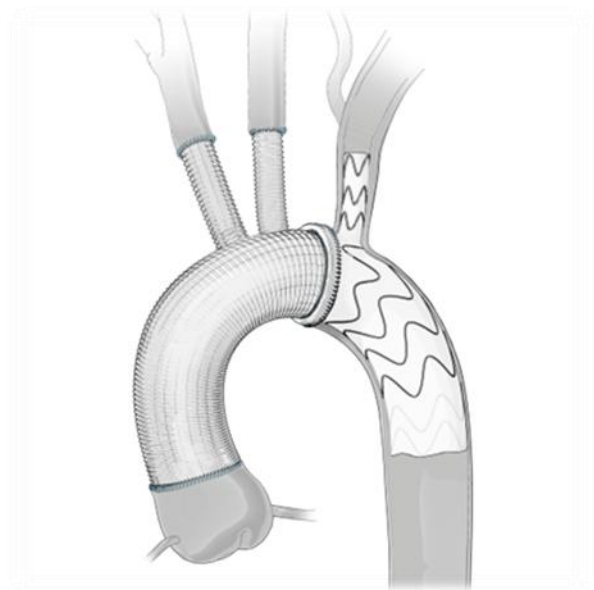

Figure 15. Representative total arch replacement with Arcevo™ LSA implant
11.5.2 Implant a surgical graft in the ascending aorta per institutional protocol and the graft manufacturer's Instructions for Use. Perform the anastomosis of a surgical graft (not supplied) to the transected aorta and Arcevo™ LSA implant using standard surgical techniques. Discretionary branch vessel anastomoses can be completed in standard surgical fashion per institutional protocol. See **Figure 15** for representative depiction of completed procedure of Arcevo™ LSA with distal landing zone.